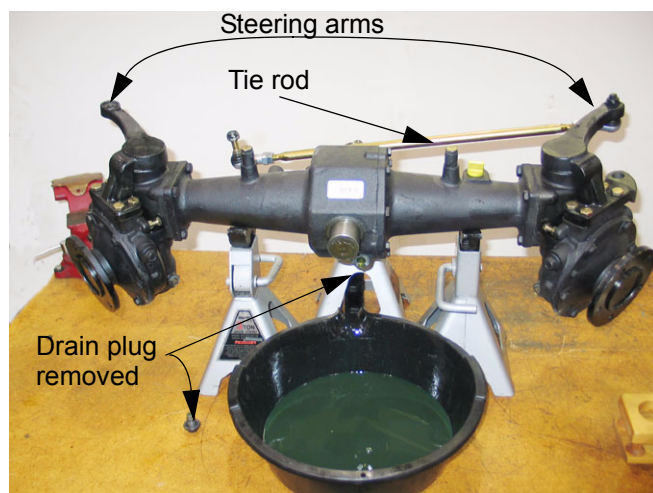

Figure 9.3
9.3. If not previously done, drain the gear lube from main housing and drop-axis housings, as described in the "REMOVAL" section of this manual. See Figure 9.3.